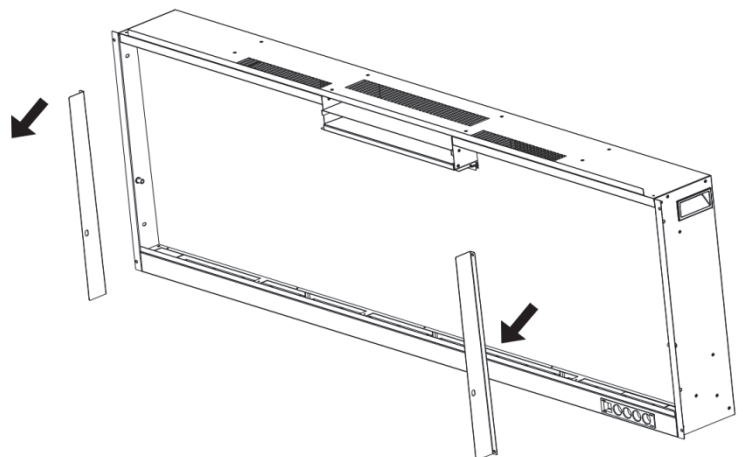

Fig. 2-2
- B. Remove the two brackets and set them aside. (**Fig. 2-2**)